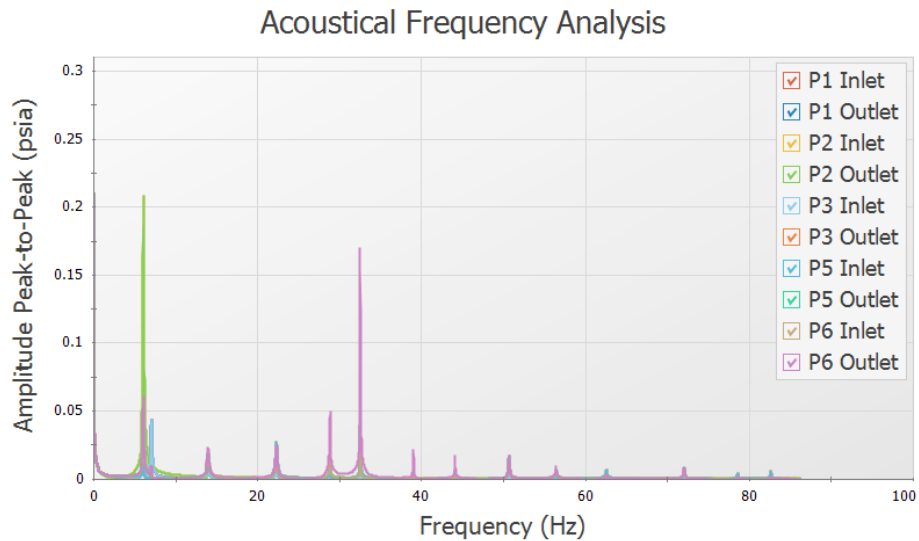
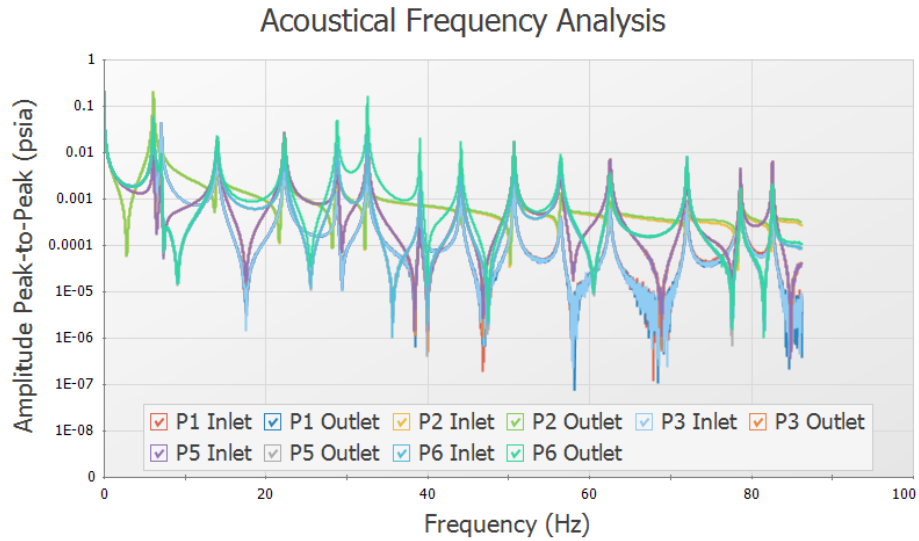

Figure 9: Excitation Frequency Analysis graph
Figure 10: Excitation Frequency Analysis Graph with Magnitude on Logarithmic Scale
- d. Click Generate. The resulting graph (shown in Figure 9) represents the frequencies that are excited by the pulse defined in the Pulsation Setup window.
- e. From the graph in Figure 9, we see that there are several frequencies that produce a large pressure magnitude. Points on the plot with a large response magnitude are easily identified by finding local maxima on the graph. These maxima are the acoustic natural frequencies that are potentially the most damaging when excited by the identified pump speeds.
- f. Note that the graph in Figure 9 can quickly be changed to display the magnitude on a logarithmic scale in order to allow for easier viewing of the magnitude behavior changes with a changing frequency. To view the Excitation Frequency Analysis graph with the magnitude displayed on a logarithmic scale, generate the frequency graph as discussed above. Right-click on either axis and select the box next to Logarithmic. See Figure 10 for an image of the graph in Figure 9 with the amplitude changed to be displayed on a logarithmic scale.